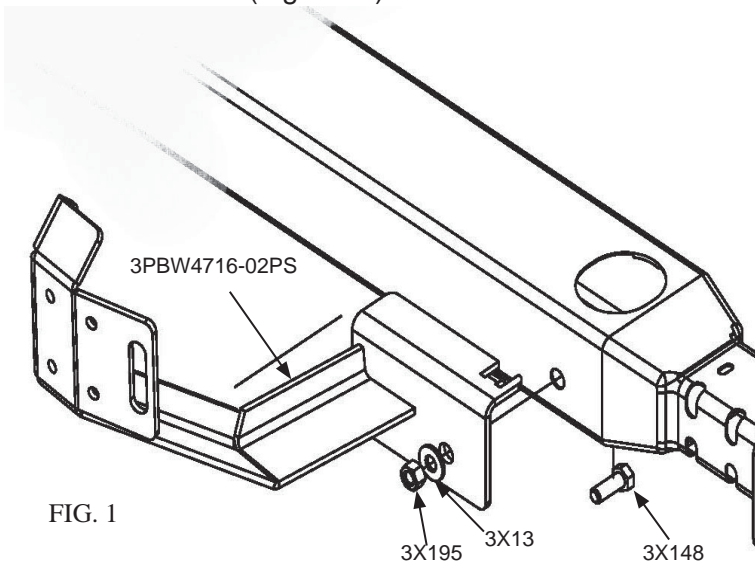

FIG. 1
- A. Attach the lower bracket 3PBW4716-02PS to the sub-frame using the 3X148 bolt, 3X13 washer and 3X195 nut. (Fig 1 & 2)